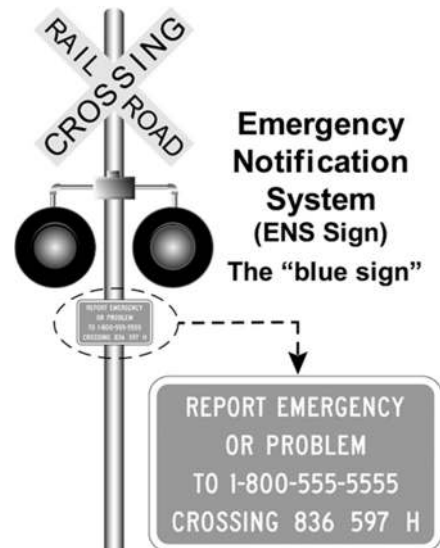

Figure 2.18A
**Emergency Notification System (ENS).** Railroads must establish Emergency Notification Systems (ENS) by installing clear and readable signs with toll-free telephone numbers at crossings so the public can report unsafe situations at the RR-highway grade crossing or a disabled vehicle or other obstruction blocking a railroad track at the RR-highway grade crossing and for railroads to respond to malfunctioning warning signals. See Figure 2.18A.